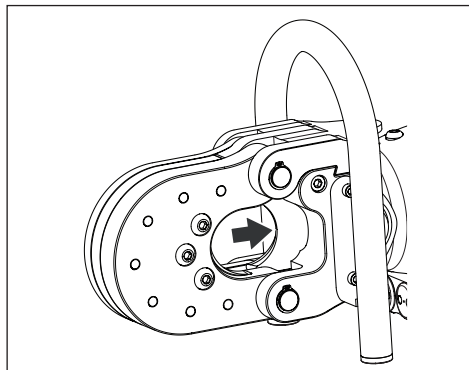

Figure 8, Piston and Blade in Home Position
Always be sure that the piston and moving blade are in the fully retracted “home” position before placing any material inside the cutting head. See Figure 8.
1. Be sure that the piston is in the “home” (fully retracted) position. See Figure 8.